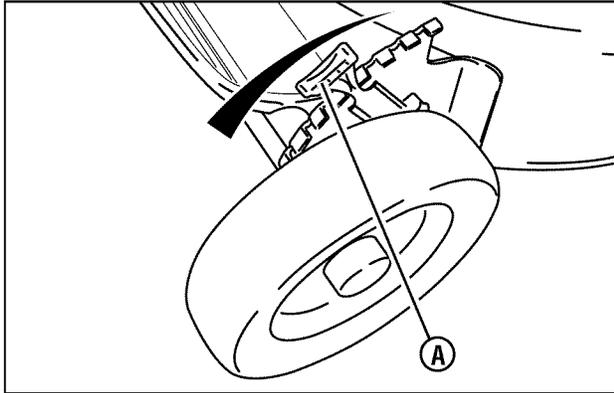

Figure 8: Adjusting cutting height
1. Pull the height adjusting latch (**A, Figure 8**) outward and move to the desired cutting height.